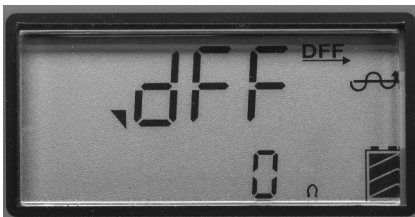

Figure 9 – Transmitter Screen
6. Connect the RED test lead to the conductor to be tested (see *Figure 9*).
1. Make sure that no one is near or touching the conductor, transmitter, leads or ground stake. Press the ON/OFF button on the transmitter to turn the transmitter ON. When the transmitter is turned on, it is set to the last used frequency. If needed, press the frequency button on the transmitter until “dFF” is shown on screen (Figure 9).